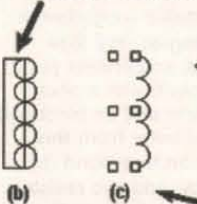

Figure 11
• When you need to orient lines within a figure with respect to the center of the figure, use the guides. Take, for example, the photoresistor symbol. Figure 11 shows how I drew it.